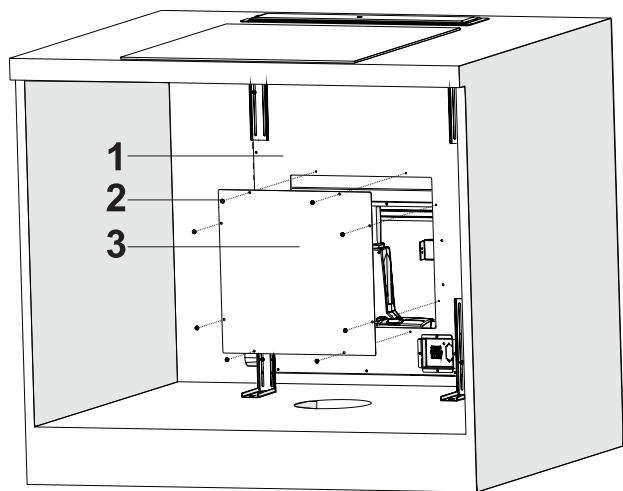

Fig. 20
7. → ■ Front and rear air exhaust sections are located on the housing. Remove housing air exhaust cover plate according to installation plan (Fig. 20).